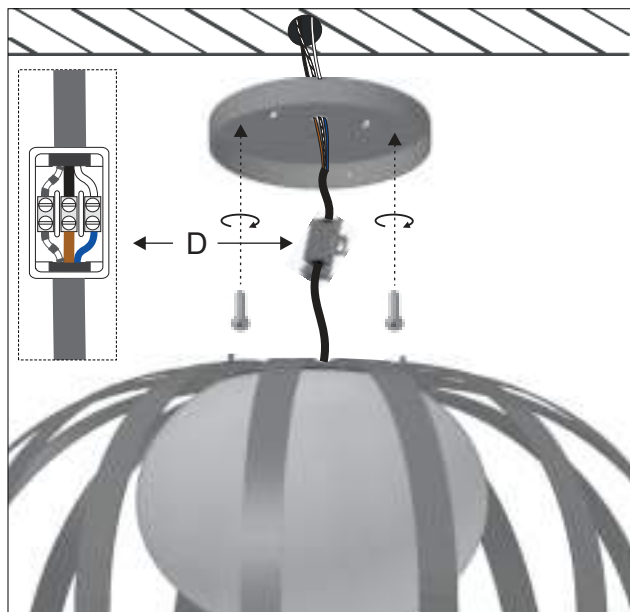

Figure 2A
Insert the power cables through the central hole of the mounting bracket (C) and fix it to the ceiling. Make the electrical connections within the supplied powerstrip (D) in order to ensure water tightness. Figure 2A.